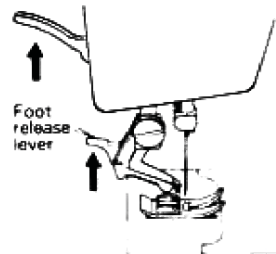

Fig. 1
1. Raise **foot release lever** to remove the foot. (Fig. 1)